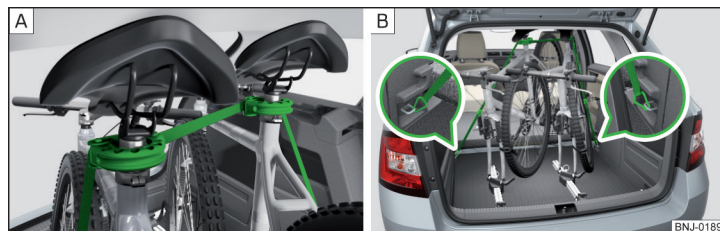

Fig. 99 Ensure the stability of the bicycles with a belt
- When transporting two bicycles, stretch the belt » Fig. 99 - [A] between the saddles by moving the bicycles apart.
- Hook the carabiners on the ends of the belt into the lower lashing eyelets behind the rear seats » Fig. 99 - [B].